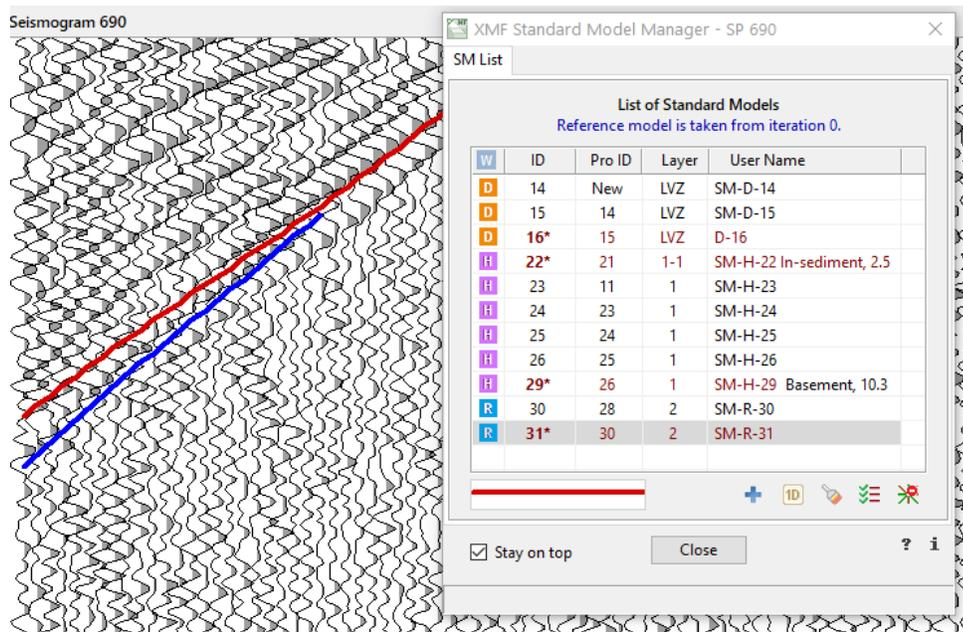

Fig. 1. SMM main window; standard model list display.
SMM is launched from Pre-study Fitting Visualizer (PFV), therefore, its main window is displayed over the seismogram image (fig. 1). This is convenient, because the two applications work together, as TV-set and remote control. To fix such relative position, check the *Stay on top* box at the bottom of the SMM window.
On fig. 1, the list displays the state of the database for shotpoint 690, according to the window's caption. Currently, fitting R-model for layer 2 is under way, and the last model iteration has ID 31. The ID is printed in bold and provided with the asterisk, which means that it is *marked*. Marked models (and only they) have their TX-curves drawn over the seismogram. Besides, local section is built only from the marked models. The default program settings work in the way that the last model iteration is marked automatically, while the previous is unmarked. Following this logic, a marked model is either a final
*Relative layer number.* It is not supposed, that a number of layers of the target model is a priori known. In the course of pre-study new (with respect to the reference model) horizons may be taken into account. Therefore, model list does not use ordinal layer numbers. Instead, it "counts" layers with respect to layers of the reference model. In the example on fig. 1, the *Layer* column contains LVZ, 1-1, 1, 2. In this succession, 1-1 and 1 mean that a new horizon is tracked within the layer 1 of the reference model, which becomes a floor of *sublayer* 1-1. Thus, a double number relates to a new sublayer, while a single one – to a layer of the reference model. If two new horizons appeared within the first layer of the reference model, the succession would be 1-1, 1-2, 1. Relative numbers are controlled by the user; they do not play an active part, they are needed to fix the order and are checked only before building the local section. After building, they are replaced with true ordinal numbers (see example).